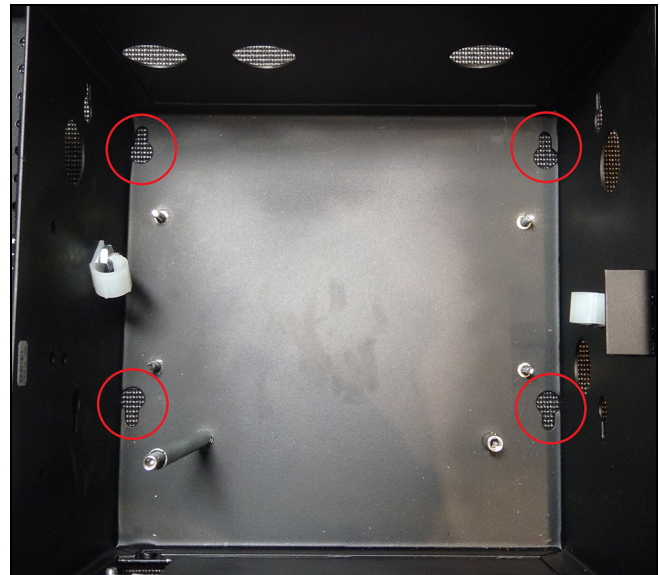

Figure 15 Rear mounting holes. Controller removed for illustrative purposes only.
2. Mount the box from the side or back using the installation keyholes on the control box and the installation screws provided. Use an extended #2 Phillips bit to aid in installation. When mounting on the back start with the bottom left screw first. Fasten all screws to securely mount the control box (4 screws for rear mount, 2 screws for side mount). See Figure 15.